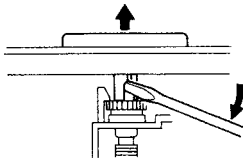
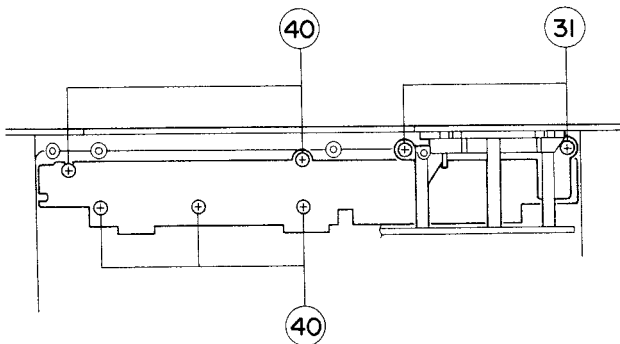

Fig. 7-11
Fig. 7-12
■ Display, volume/system CPU/operation switch board (Fig. 7-11, Fig. 7-12)